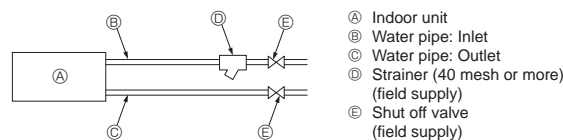

Fig. 4-4
11. Please refer to the [Fig. 4-4] when connecting the water supply.